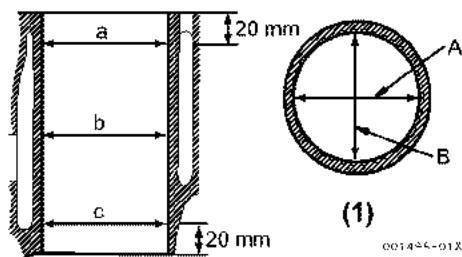

Figure 5-60
- Measure at 20 mm (0.8 in.) below the top of the cylinder bore (Figure 5-60, (a)).
- Measure at the center of piston travel (Figure 5-60, (b)).
- Measure at 20 mm (0.8 in.) from the bottom of the skirt in both directions (Figure 5-60, (A), (B)).
Use a Dial Bore Gauge to measure the cylinder bore diameters. Measure the cylinder bore twice at right angles at position A and B, shown in (Figure 5-60).
- First two measurements, at position (Figure 5-60, (a)) at the top of the cylinder bore.
- Second two measurements, at position (Figure 5-60, (b)) in the middle of the cylinder bore.
- Third two measurements, at position (Figure 5-60, (c)) at the bottom of the piston ring travel in the cylinder bore.